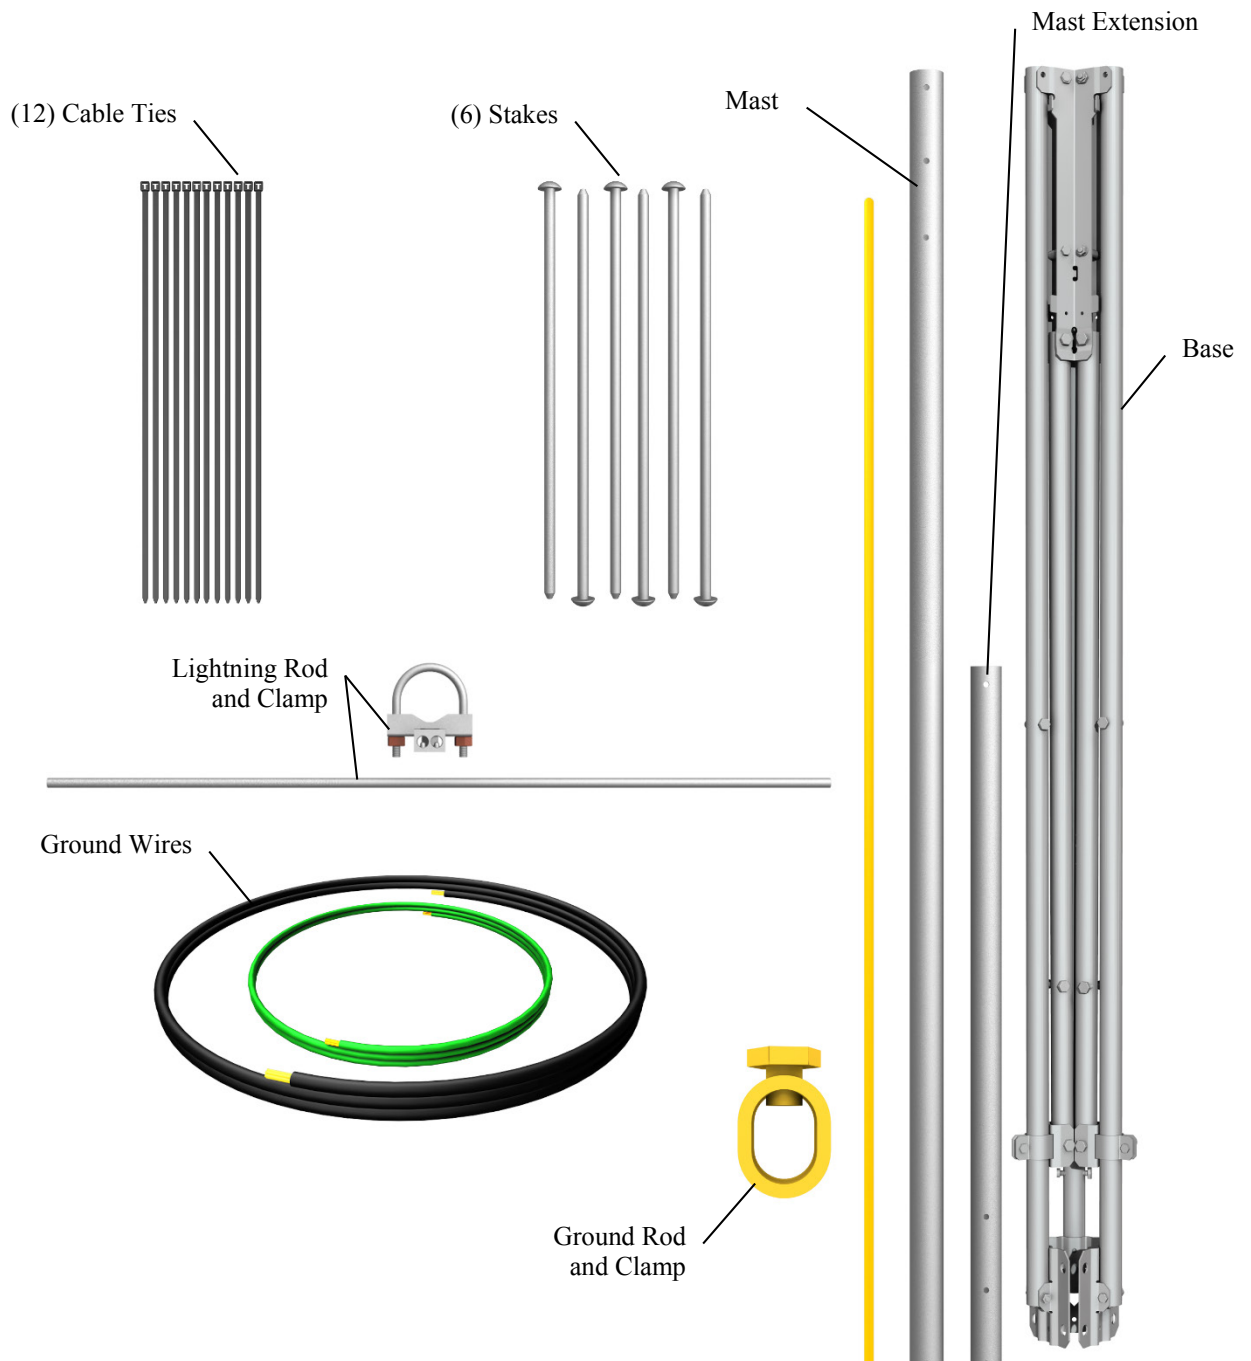

FIGURE 3-1. Tripod components
FIGURE 3-1 shows the tripod components. The tripod base is packaged with the mast, mast extension, ground rod, lightning rod, and (6) stakes. The ground rod clamp, lightning rod, lightning rod clamp, cable ties, and ground wires are enclosed in a bag. The optional guy kit is packaged separately.